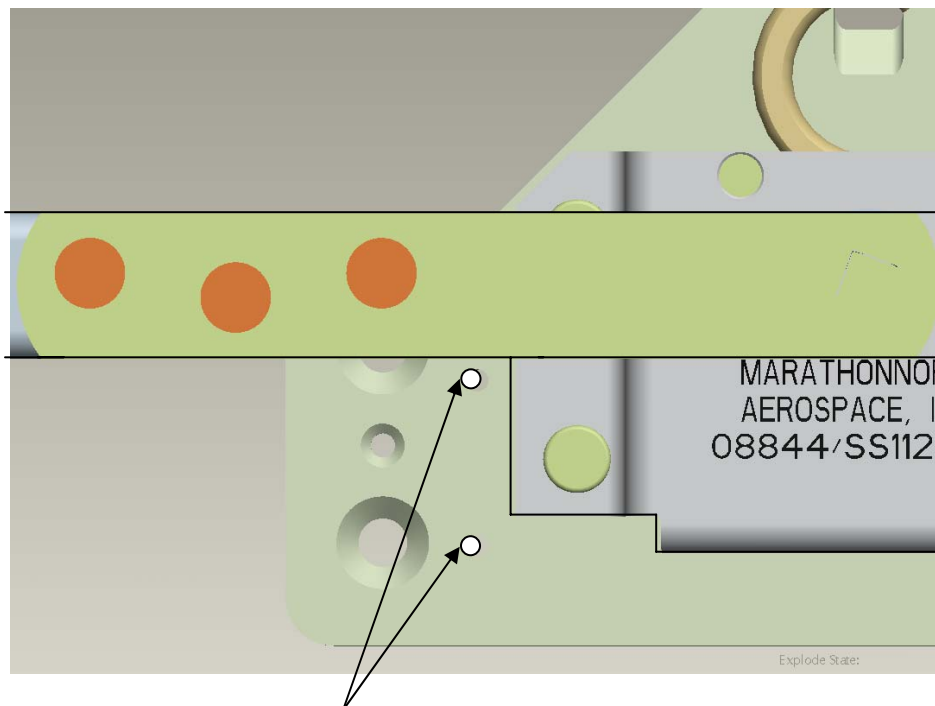

Figure 3: Interface holes in Base Plate
- c. Mark the holes while the Block Spring is in place then remove it and drill the .098 diameter interface holes at the locations shown in Figure 3.
- d. Open pilot holes shown in Figure 3 to .1120, tap using 40 UNC-2A tap and debur.